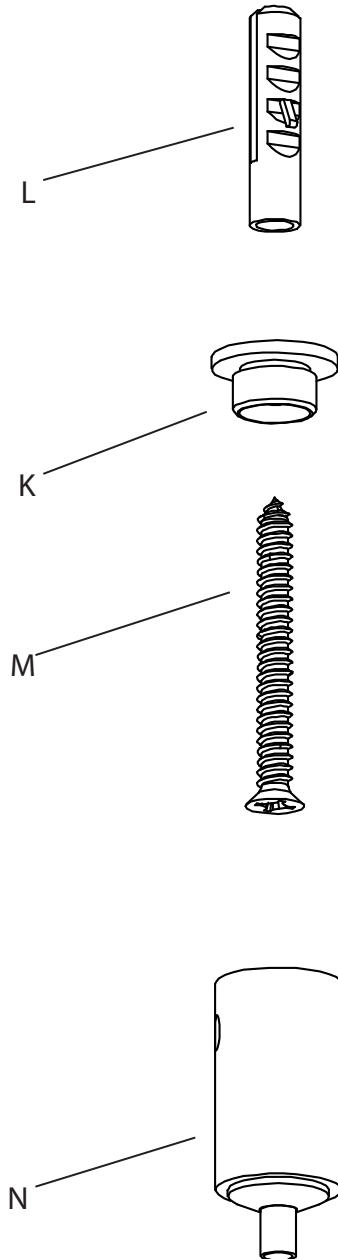

Fig. 3
5. Attach Suspension Hangers to the ceiling at locations determined in Steps 1-4. Install the Mounting Bracket (K) to the ceiling with Anchor (L) and Screw (M), then screw the Post (N) onto the mounting bracket (Fig. 3). **CAUTION: Customer is responsible for ensuring appropriate ceiling construction to support the weight of the fixture.**